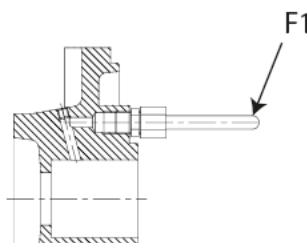

Fig.5
- Cooling, sealing and flushing of seal piping must be connected only to the designated connections located on the pump (Figure 5 and 6).